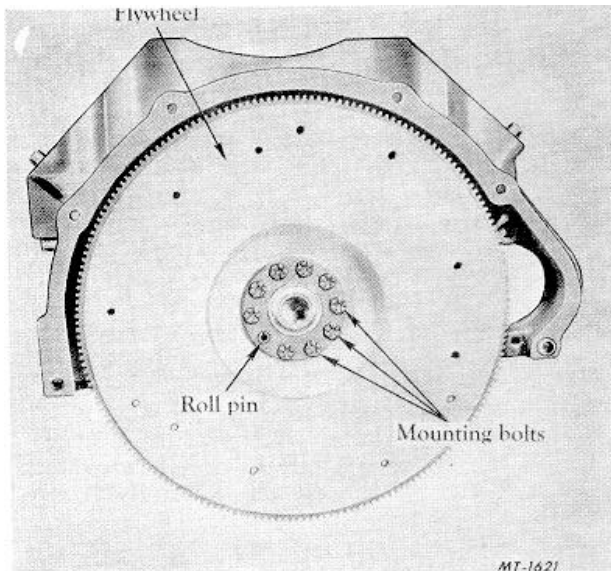

Fig. 38 Flywheel Removal
46. Loosen nine mounting bolts and remove the flywheel assembly and roll pin from the crankshaft flange, Fig. 38.